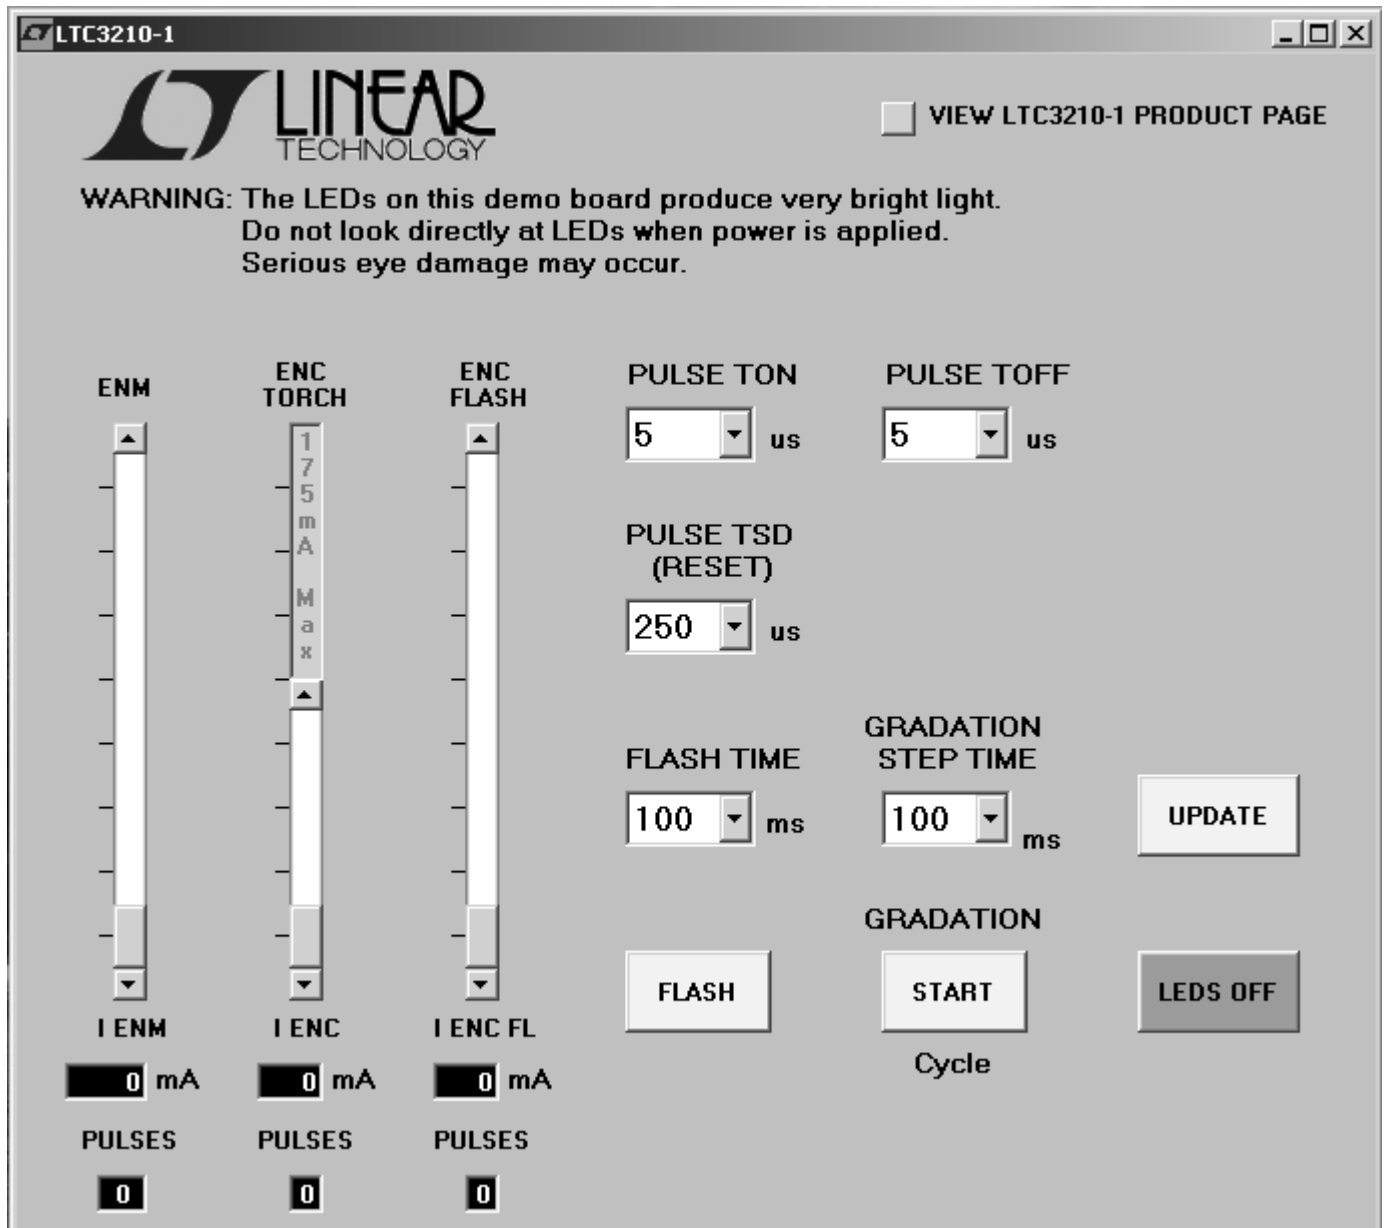

Figure 2. LTC3210-1 Control Window
5. Run the QuikEval™ program. The program detects the DC1022 and displays the LTC3210-1 control window (shown in Figure 2).